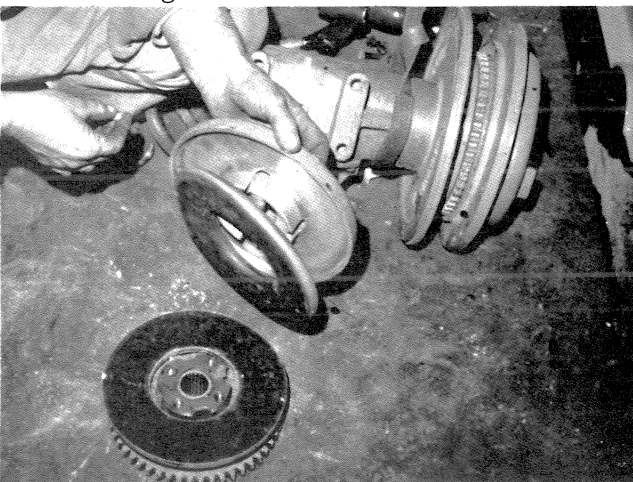

Figure 12. Clutch Air-tube
- (12) Lift the air-tube cover plate (Fig. 12) and inspect the air tube for evidence of deterioration or damage.